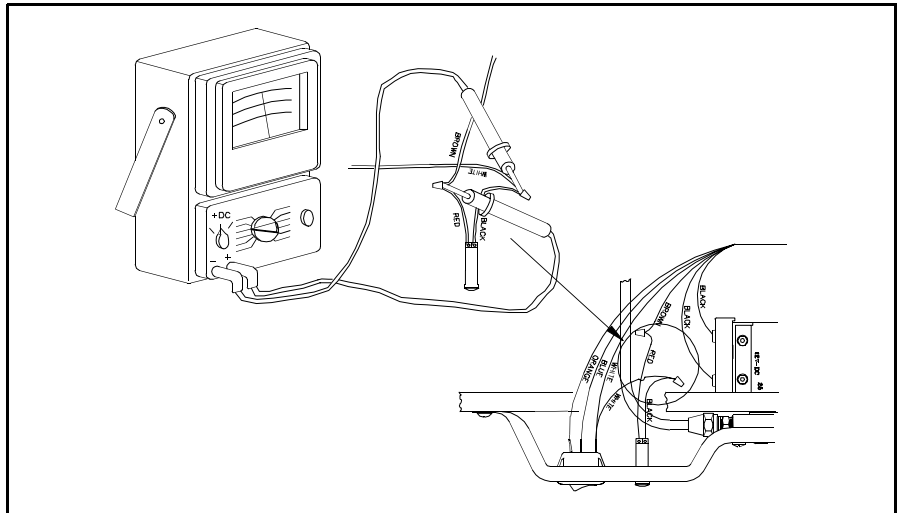

Figure 3.24 Flame Indicator Check
3. With the Ignitor Switch on, and a flame established, check first that the wires to the flame indicator bulb are not reversed. Properly wired would be: red lead from bulb to brown harness wire; black lead from bulb to white harness wire shown in Figure 3.24.